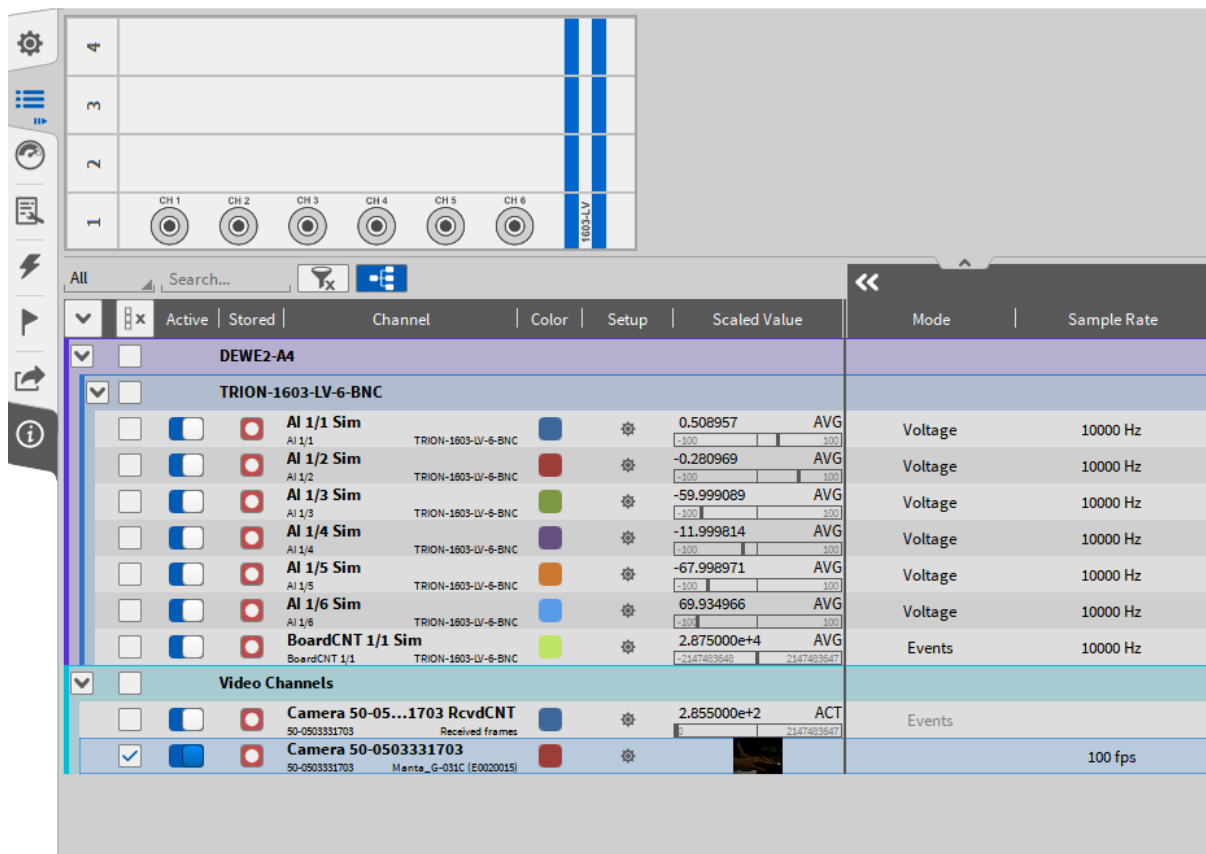

Fig. 8.83: Frame Counter Channel
**Note:** For each connected camera, there exists a counter channel that counts the number of received frames since acquisition start. The channel has the same name as the respective camera with RcvdCNT appended. To activate the counter, you need to activate the channel (The channel is not activated automatically). The channel can be found in the *Video Channels* section of the Channel List (see Fig. 8.83).